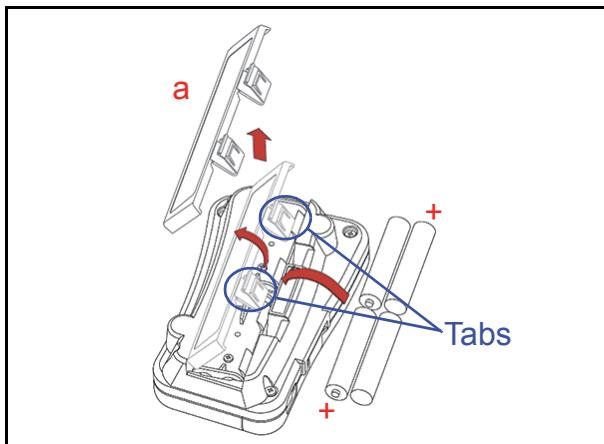

Figure 4 Type AAA Battery Installation
- Install four (4) AAA Batteries into their correct polarized position in the direction illustrated in Figure 4.